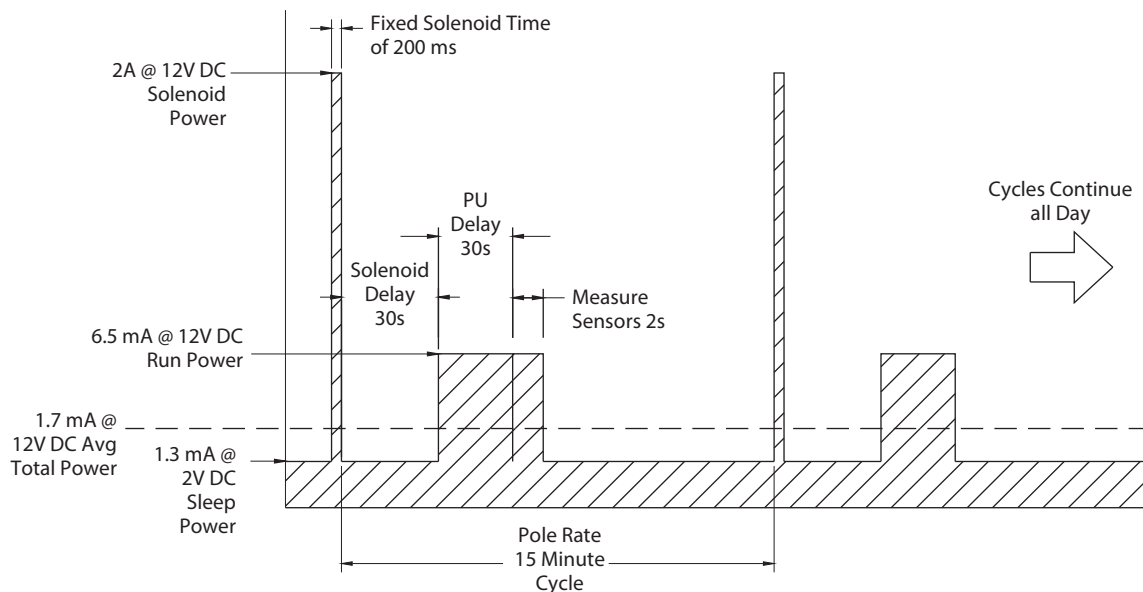

Figure 9: Average vs. pulse power and state diagram
- Modem uploads twice per day (not shown in Figure 9).